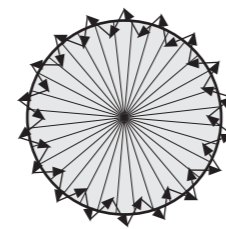

FIG.14
- Walk from outside across to the detection pattern until red LED turns on for approx. 2sec then off, the next trigger should be 2sec interval (See FIG.14).